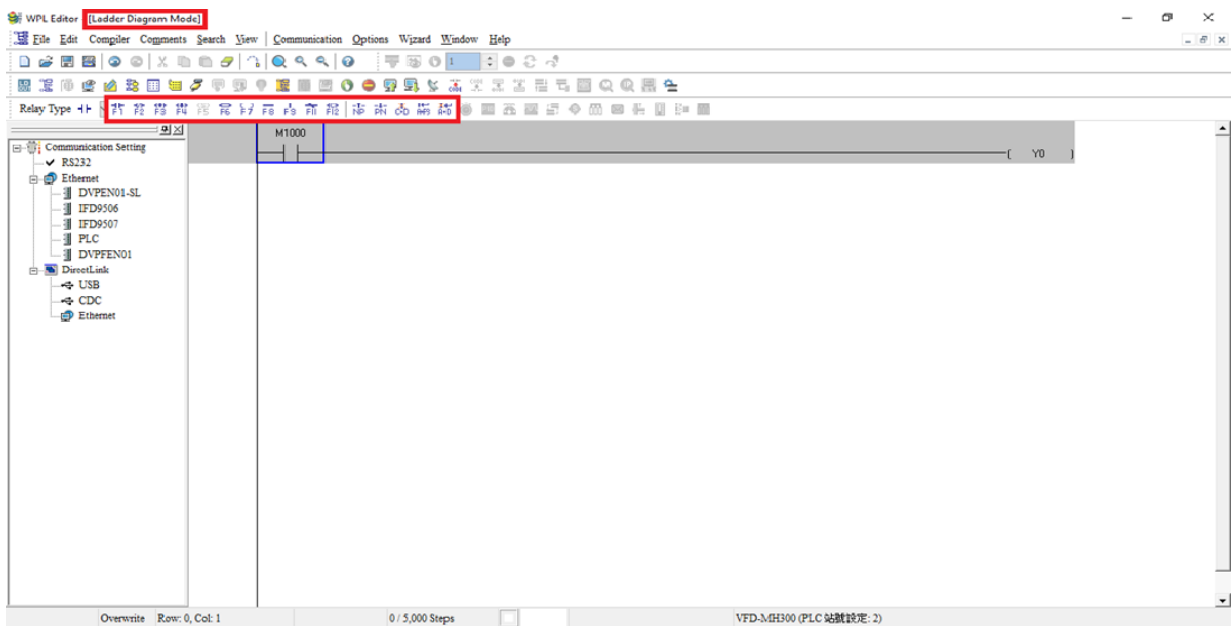

Figure 16-9
**NOTE** In ladder diagram mode, you can perform program editing using the buttons on the function icon row (see figure 16-9 below).